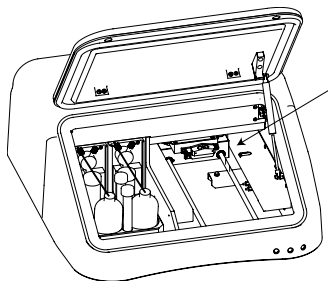

Figure 18. Push the optical head toward the center.
3. Push the optical head from the Home position toward the center of the instrument (Figure 18).
4. Push the optical head to the center of the luminometer, exposing the black metal shelf on the right side of the luminometer (Figure 18).